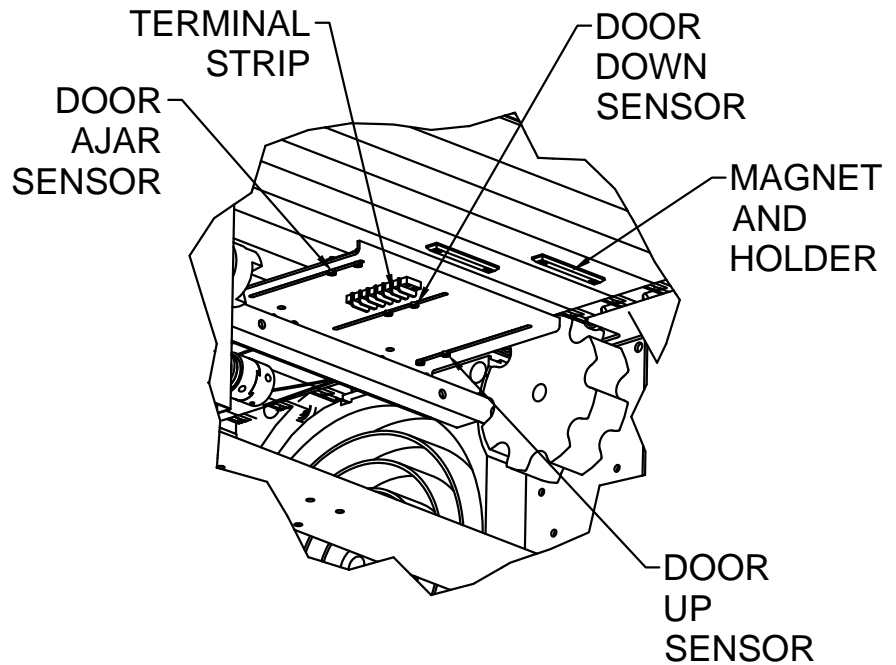

Figure 7 – SENSOR LOCATIONS
d) Note the gap between the bottom rail rubber bumper and curtain open stop. Adjust the *door up sensor* (closest to track--Figure 7) using 1/4" wrench. In some situations the magnet and holder located on the bottom of the curtain slats may need to be moved over one slat and reinstalled with supplied 1/8" rivets.